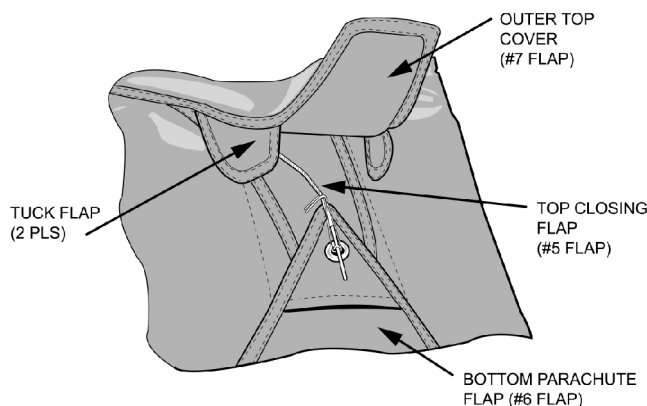

Figure 4. Outer Top Cover Flap (#7 Flap) Closing
(6) Tack using Tape, Lacing & Tying 12-in. long and a curved needle. Tack through tuck flap seam on outer top cover flap (#7 flap) to top closing flap (#5 flap) seam, using one turn, single, tied with a surgeon's knot, followed by a square knot. Trim off excess. Repeat process on other side (Figures 4 and 5). (QA)